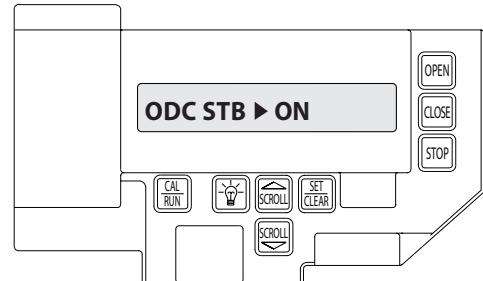

Figure 12
- 2) Press SCROLL  key (up or down) until display reads "ODC STB>ON" or "ODC STB>OFF" **Figure 12**.